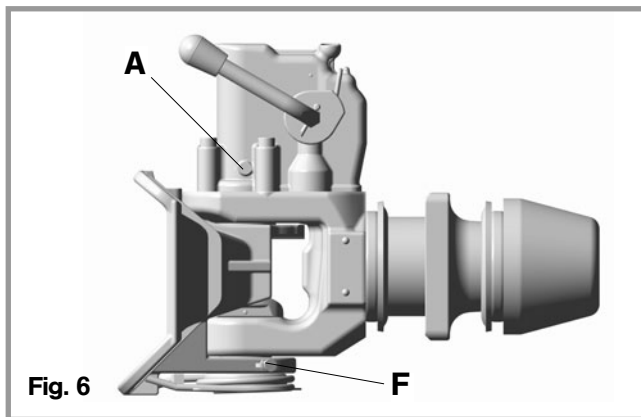

Fig. 6
- Under harsh operating conditions or severe exposure to dirt or water regrease automatic unit (**A**) when coupling is open (see fig. 6):